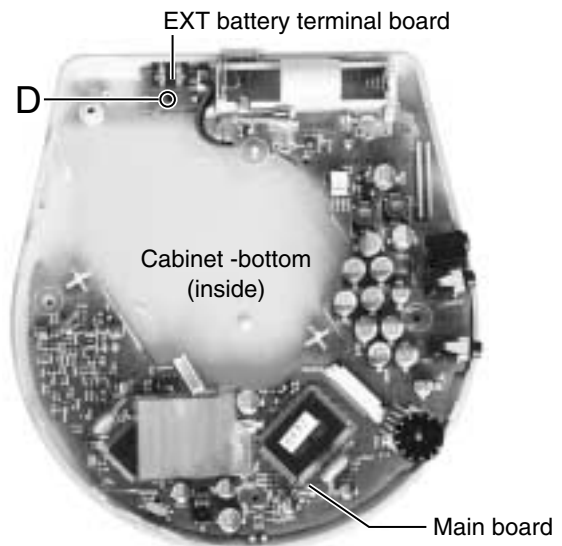

Fig.6
**■ Removing the main board & EXT battery terminal board (See Fig.6)**